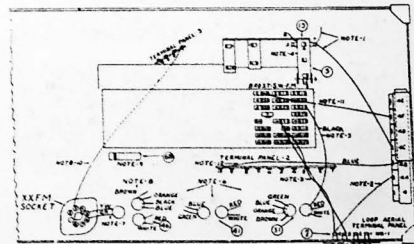

Fig. 3—Critical Wiring Locations—F. M. Aligning Model 42-395
1. Wire from F. M. oscillator transformer (15) to compensator 4C must be short, also the blue wire from F. M. oscillator transformer (15) to the tuning condenser should be short and away from chassis.
4. All wires from the lugs of the F. M. oscillator transformer (15) should be dressed away from the push button switch and the wires of the F. M. aerial transformer (5) which is part of the F. M. oscillator transformer (15).
5. The black wire from the first I. F. transformer (31) to lug 5 of the F. M. push button must be dressed along the chassis and away from the orange and yellow lead of the I. F. transformer.
6. Wires from the 1st, 2nd and 3rd I. F. transformers must come through the holes as indicated in Fig. 3.
7. The yellow and green leads from the third I. F. transformer (46) to contact 5 and 6 of the XXFM socket must be dressed away from the chassis and other wiring.
8. The white, brown, black and orange wires from the third I. F. transformer (46) must be dressed away from chassis base.
9. Condenser (68) must be away from chassis base.
10. Wire from contact 3 of the XXFM socket must be dressed away from the leads of the 3rd I. F. transformer (46) and the test socket lead.
12. The blue wire from electrolytic condenser (53) to lug 10 of terminal panel No. 2 must be dressed close along chassis base under condenser (25) and close to terminal panel.